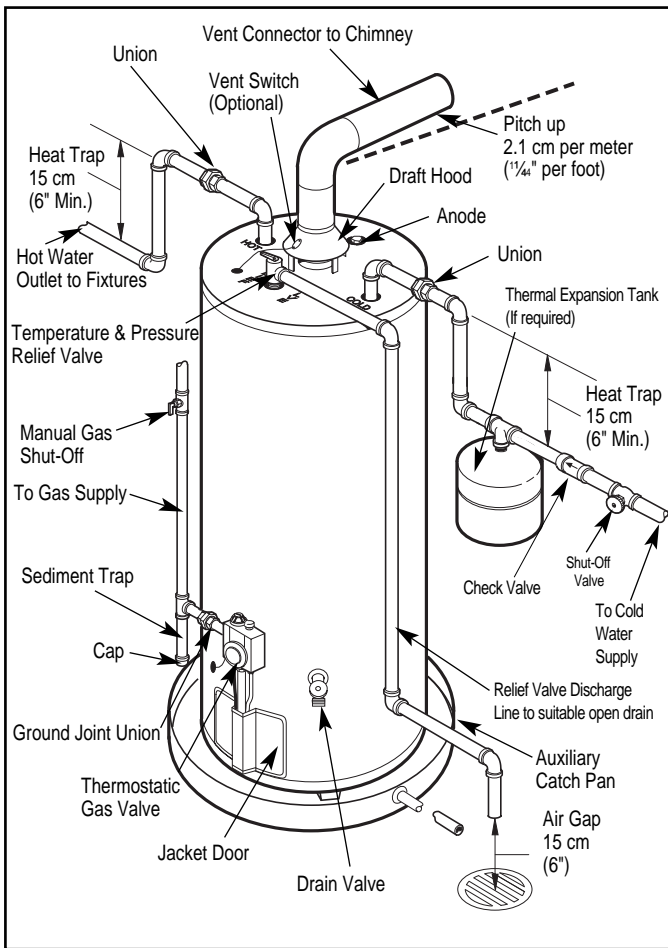

Figure 3. — Typical Installation
The suggested method of controlling thermal expansion is to install an expansion tank in the cold water line between the water heater and the check valve. (Refer to Figure 3.) The expansion tank is designed with an air cushion built in that compresses as the system pressure increases, thereby relieving the over pressure condition and eliminating the repeated operation of the relief valve. Other methods of controlling thermal expansion are also available. Contact your installing contractor, water supplier, or plumbing inspector for additional information regarding this subject.
3. **WATER SUPPLY CONNECTIONS** — Refer to Fig. 3 for suggested typical installation. The installation of unions or flexible copper connectors is recommended on the hot and cold water connections so that the water heater may be easily disconnected for servicing if necessary. The HOT and COLD water connections are clearly marked and are 3/4" NPT on all models. Install a shut-off valve in the cold water line near the water heater.
4. **RELIEF VALVE** — A new combination temperature and pressure relief valve, complying with the Standard for Relief Valves and Automatic Gas Shutoff Devices for Hot Water Supply Systems, ANSI Z21.22, or equivalent local or international standard, must be installed in the opening provided and marked for the purpose on the water heater. (Refer to Fig. 3.) No valve of any type should be installed between the relief valve and the tank. Local codes shall govern the installation of relief valves.
6. **GAS SUPPLY** - The branch gas supply line to the water heater should be clean 13 mm (1/2 inch) black steel pipe or other approved gas piping material. A ground joint union or equivalent national standard design certified semirigid or flexible gas appliance connector should be installed in gas line closest to the water heater, and a manual gas shut-off valve should be installed in the gas line prior to the union. The manual gas shut-off valve should be at least 1.5 meters (5 feet) above the floor and readily accessible for turning on or off. A sediment trap should be installed at the bottom of the gas line. (Ref. to Fig. 3)
8. LEAK TESTING - The water heater and its gas connections must be leak tested at normal operating pressures before it is placed in operation. Turn on the manual gas shut-off valve near the water heater (Refer to Fig. 3). Use a soapy water solution to test for leaks at all connections and fittings. Bubbles indicate a gas leak that must be corrected. The factory connections to the thermostat should also be leak tested immediately after the water heater is placed in operation.
The water heater must be isolated from the gas piping system by closing the manual gas shut-off valve (Refer to Fig. 3), during any pressure testing of the gas supply piping at pressures equal to or less than 57.5 mbar (23.14" w.c.) or as described in local codes.
10. VENTING - This water heater must be installed with the factory supplied draft hood in place. (Refer to Fig. 3.) Vent connectors must be attached to the draft hood outlet to connect the water heater to the gas vent or chimney. The vent connectors must be the same size (diameter) as the draft hood outlet or larger, never smaller. For proper venting in certain installations a larger vent connector size may be needed.